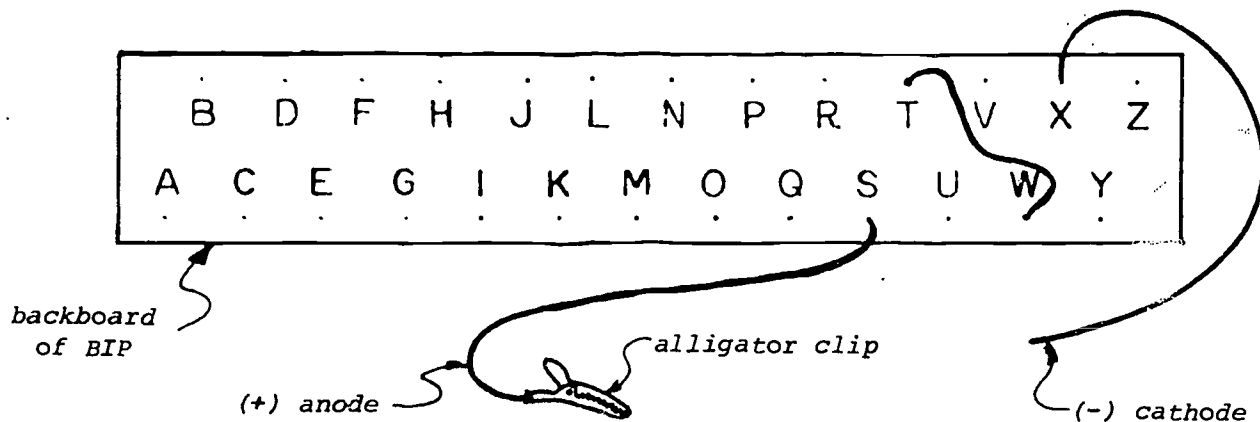

FIGURE 2: BIP programming for 5-volt supply.
1. As stated in the introduction, you will be using the BIP as a voltage supply to create the electric current necessary for the electroplating. Connect the 5-volt supply on the BIP as indicated by the instructor. When you are finished you should have a set-up like the one shown in Figure 2. (Note: DO NOT plug in the BIP until indicated in the procedure.)